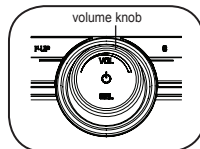

Figure 8
3. The volume level of telephone conversation can be adjusted by rotating the volume knob (Figure 8).
3. Volume of BT Music can be adjusted by volume knob (Figure 8).